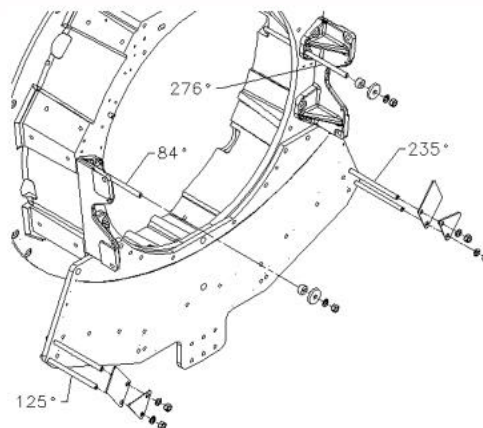

Figure 10
5. Next, will be the 125° and 235° locations. Refer to Figures 10, 11 and 12.